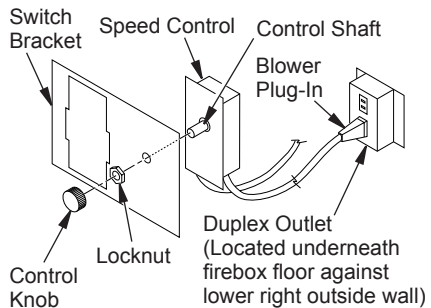

Figure 27 - Attaching Speed Control to Firebox
5. Mount speed control box to switch bracket by placing the plastic control shaft forward through the round opening in the switch bracket (see Figure 27).
5. Mount the speed control box against the mounting plate provided in the lower fireplace cavity by placing the plastic control shaft forward through the round hole (see Figure 27, page 19).
6. While supporting speed control, secure control shaft with lock nut by pushing and turning lock nut with pliers clockwise until it is tight against mounting plate. Place control knob provided on shaft (see Figure 27, page 19).